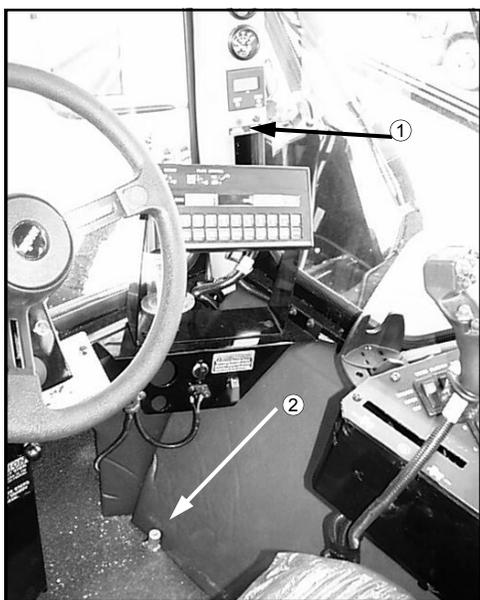

FIG 5.29
The main solution switch is a floor-mounted "dimmer-style" switch (fig. 5.29, item 2). It controls the power supply to the panel of boom solution valve switches. The main floor switch must be on to supply the panel switches with voltage. This way you can turn all of the boom solution valves "ON" or "OFF" all at once in a hands-free execution such as turning the main solution switch "OFF" as you arrive at the end rows of a field and turn it back "ON" as you enter the field again.
When the main solution switch is "ON" a "GREEN" indicator light mounted at the bottom of the instrument panel will light up (fig. 5.29, item 1). When the light is not lit, the main solution switch is "OFF."